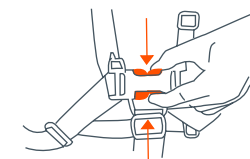

Fig. 15
15) To release, apply pressure to both sides of each male clip until the clip is released (Fig. 15).